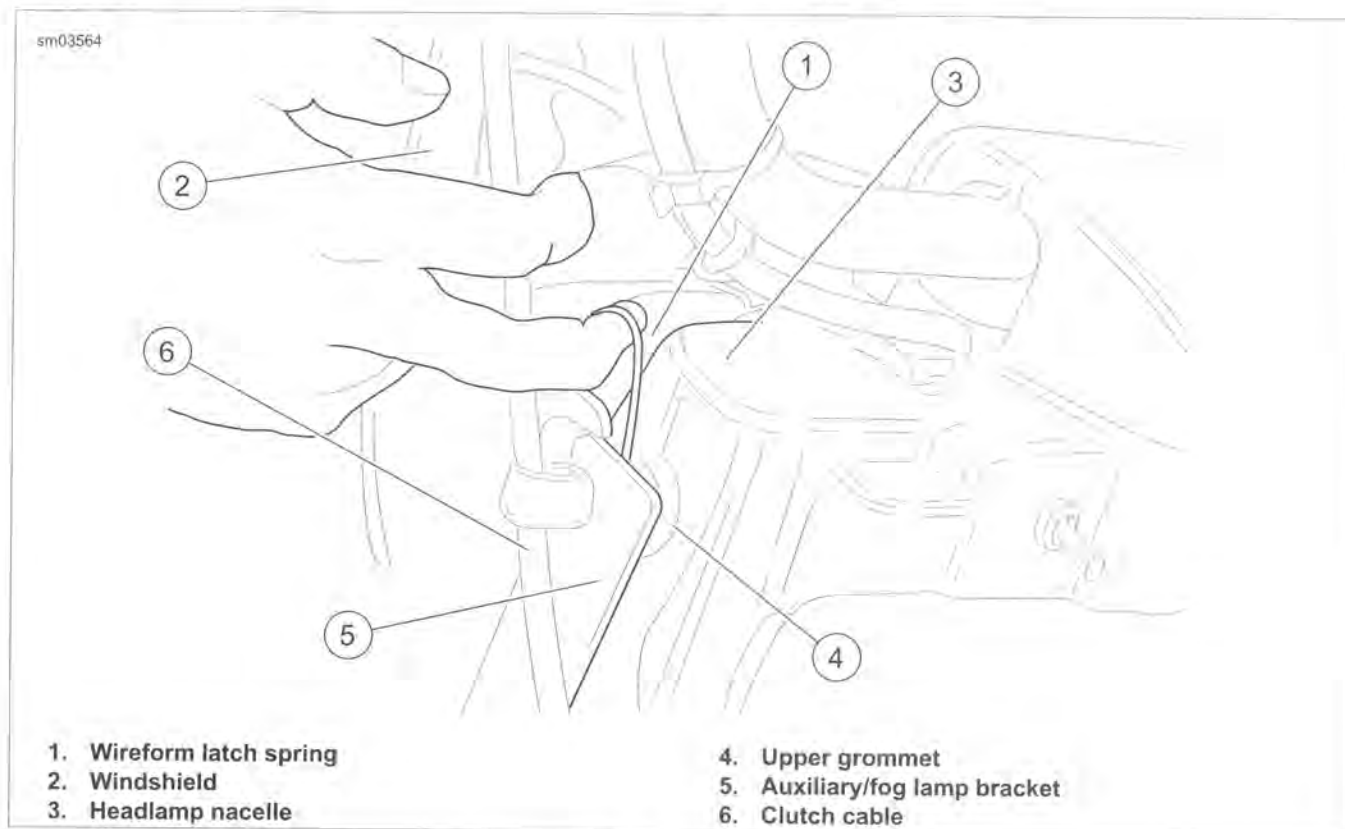

Figure 2-151. Windshield (FLHR/C)
1. See Figure 2-151. Raise the wireform latch springs on both sides of the windshield.
2. See Figure 2-151. Push the top of the windshield rearward until the upper notches fully engage the upper grommets.